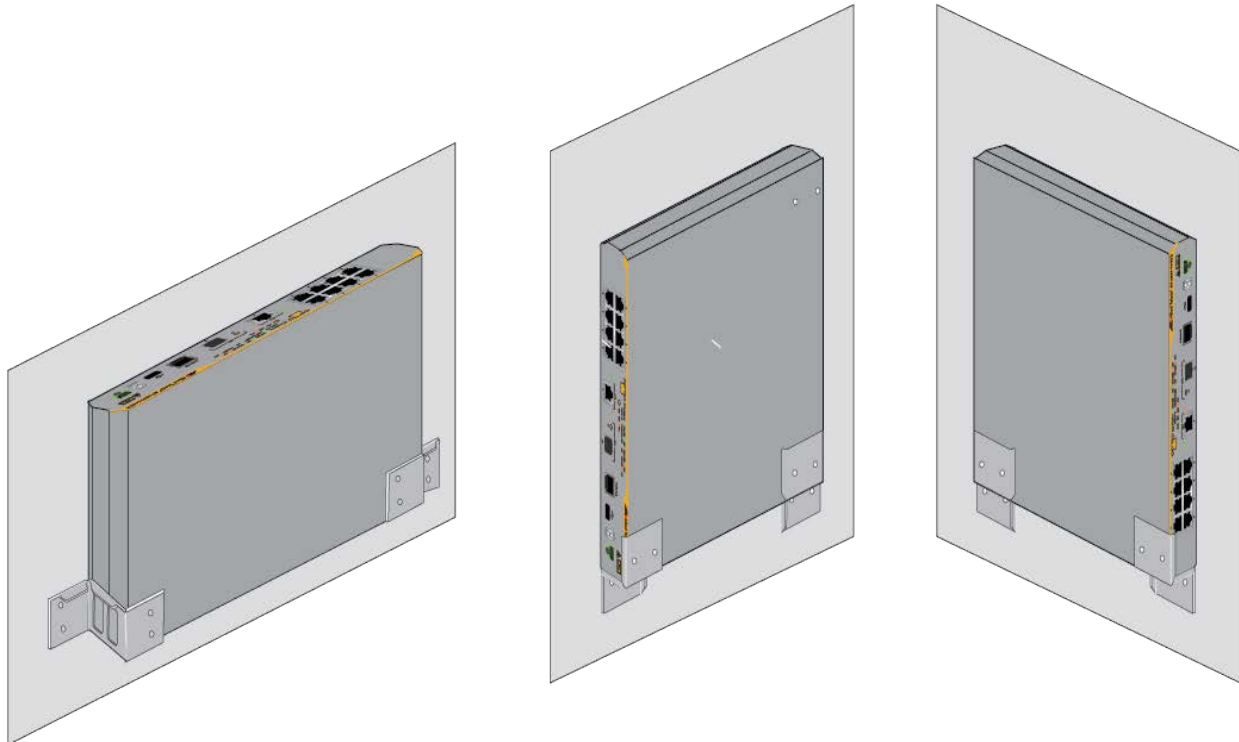
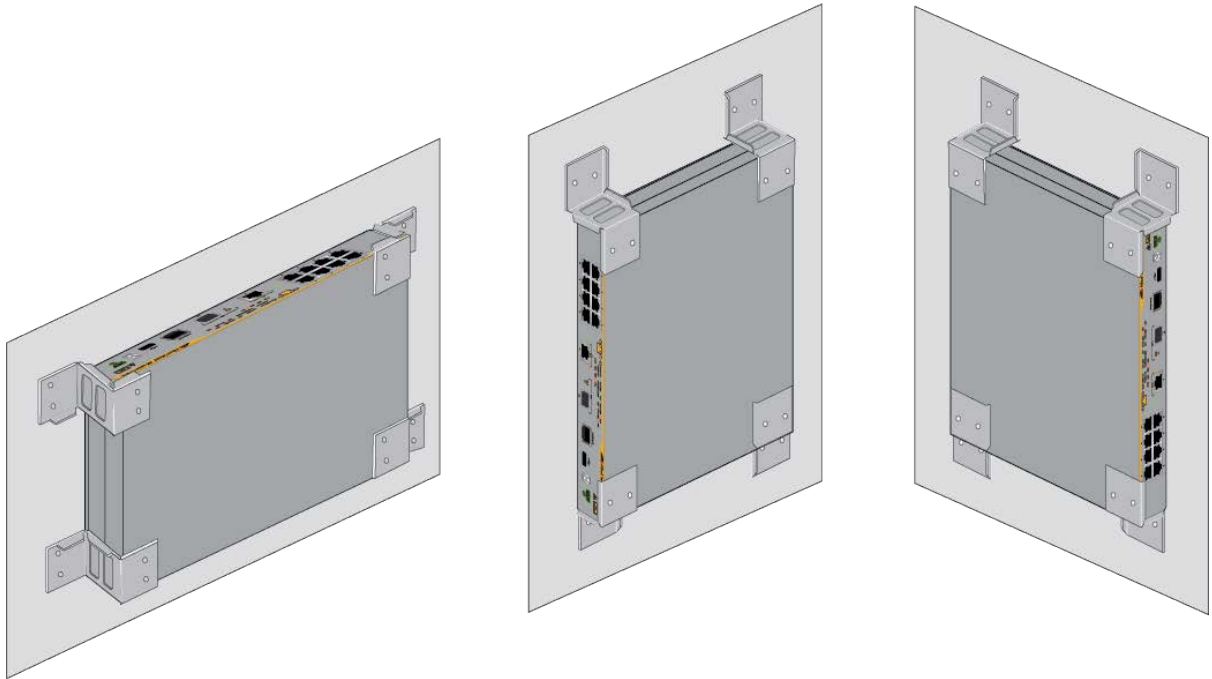

Figure 47. x330-10GTX Switch with Two BRKT-J23 Wall Brackets
Figure 48. x330-10GTX Switch with Four BRKT-J23 Wall Brackets
You can install the switch with the front panel facing up, left or right, with two or four brackets. Figure 47 shows the switch with two brackets.
Figure 48 shows the switch with four brackets.
- ❑ As shown in Figure 47 on page 86 and Figure 48 on page 87, the BRKT-J23 brackets secure the device by its sides. Installing the brackets over the front or rear panel will block copper ports or the AC power connector.